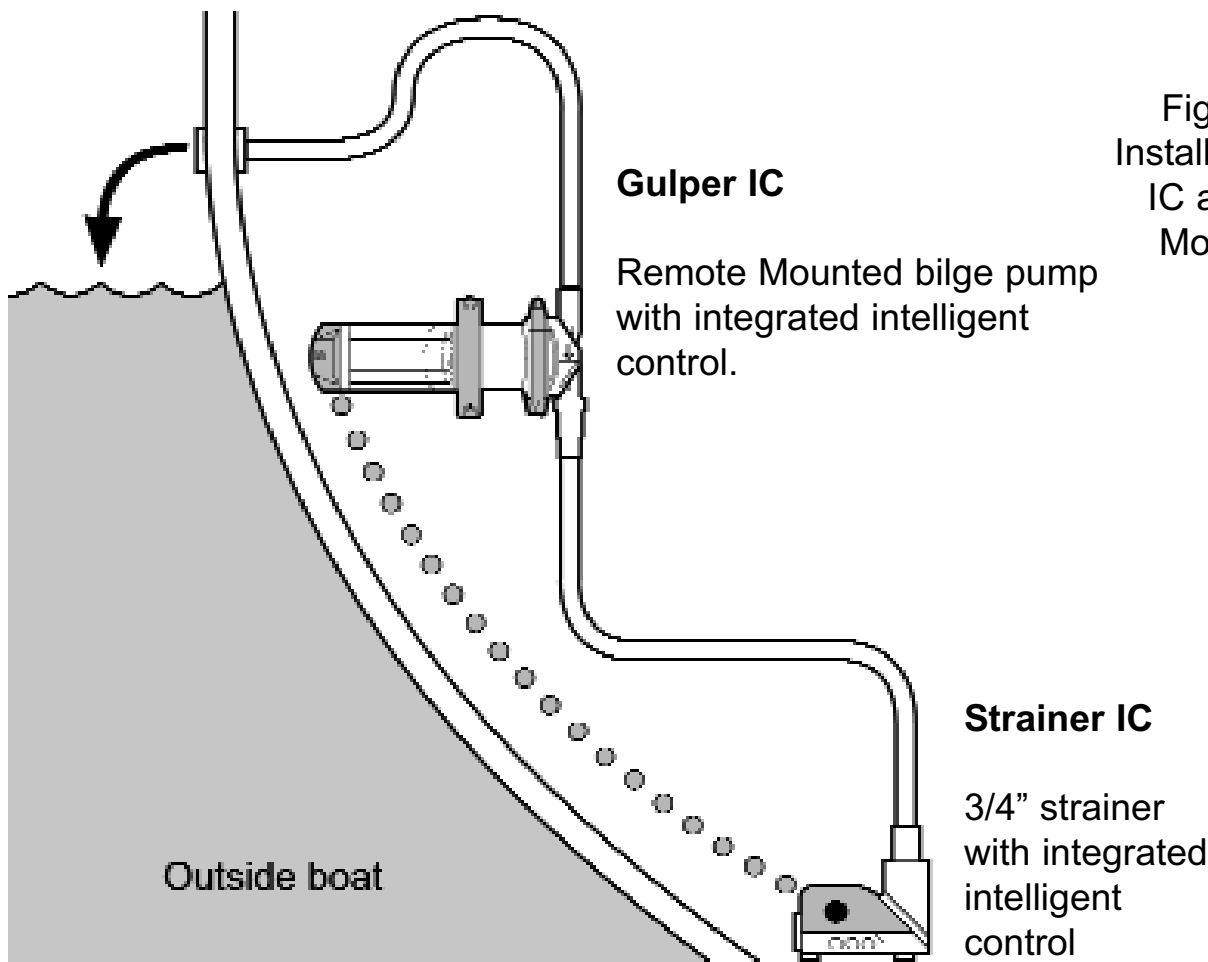

Fig 1 - Typical Installation Gulper® IC as a Remote Mounted Bilge Pump
- FIG 1 GULPER® IC - TYPICAL INSTALLATION AS A REMOTE MOUNTING BILGE PUMP FOR USE WITH WHALE STRAINER IC
and switches on and off automatically (See Fig 1). Suitable for a primary bilge pump for boats smaller than 12 metres/39.4 ft (designed to ISO15083), or as a secondary bilge pump on any recreational marine vessel.
- This pump **must not** be mounted below the water line when connected to an intake or outlet unless the system has a vented loop (see Fig 1).
NOTE -It is recommended that the outlet is mounted above the water line and anti-siphon loops are fitted where applicable- see typical installation (Fig. 1)